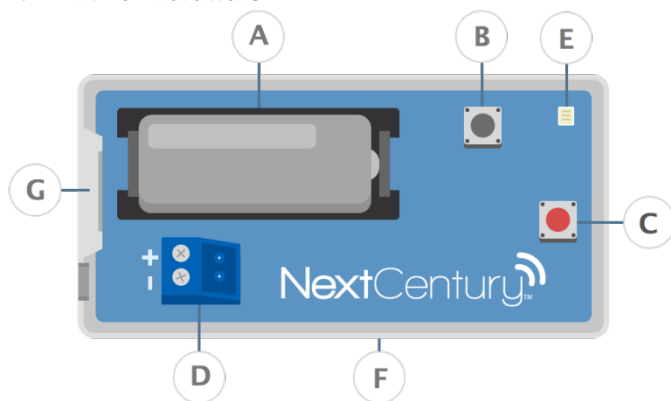

Figure 1 TR-201 Hardware
1. Open the Transceiver plastics by pressing in on the plastic release tab (Figure 1-G) while lifting away the cover.
2. Remove the Degson Connector (Figure 1-D) from the Transceiver board by pulling up on it.
1. NextCentury's M201C and M201CH meters have a mounting plate that can be attached to them. Simply slide the Transceiver onto the mounting plate. When using this method, the Transceiver mounting plate (Figure 1-F) can be discarded.
2. Remove the 3M double-sided protective cover and place the Transceiver mounting plate (Figure 1-F) on a clean wall.
3. Use the mounting screws and anchors to secure the Transceiver mounting plate (Figure 1-F) to the wall.
Each Transceiver comes from NextCentury in *Travel Mode*. In this mode, all radios on the device are turned off. To exit this mode, simply press the test connect button (Figure 1-C).
The Signal Status LED (Figure 1-E) provides a way to easily check the status of each device. The following table (Figure 4) shows what the different LED patterns indicate.
- This button is pressed to see if the Transceiver transmission is being received by its GW-301 Gateway. If the signal is being received, the RF LED (Figure 1-E) will blink green twice.
- Open the Transceiver plastics by pressing in on the plastic release tab (Figure 1-G) while lifting away the top cover.